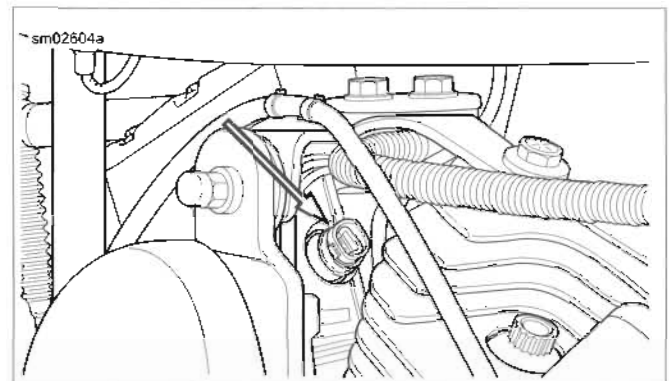

Figure 4-17. Engine Temperature Sensor
3. See Figure 4-17. Pull back boot to reveal ET sensor at back of front cylinder.